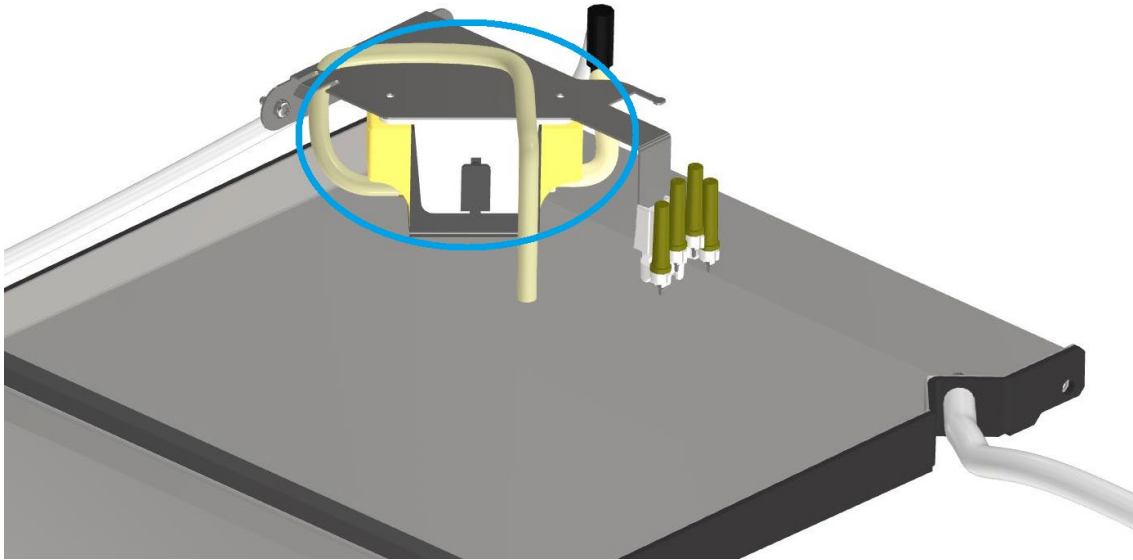

Figure 23: Condensate pump
7. Refer to Figure 23 below: if needed, clean the condensate pump with a damp cloth. There are two pumps, one on each side of the middle tray.